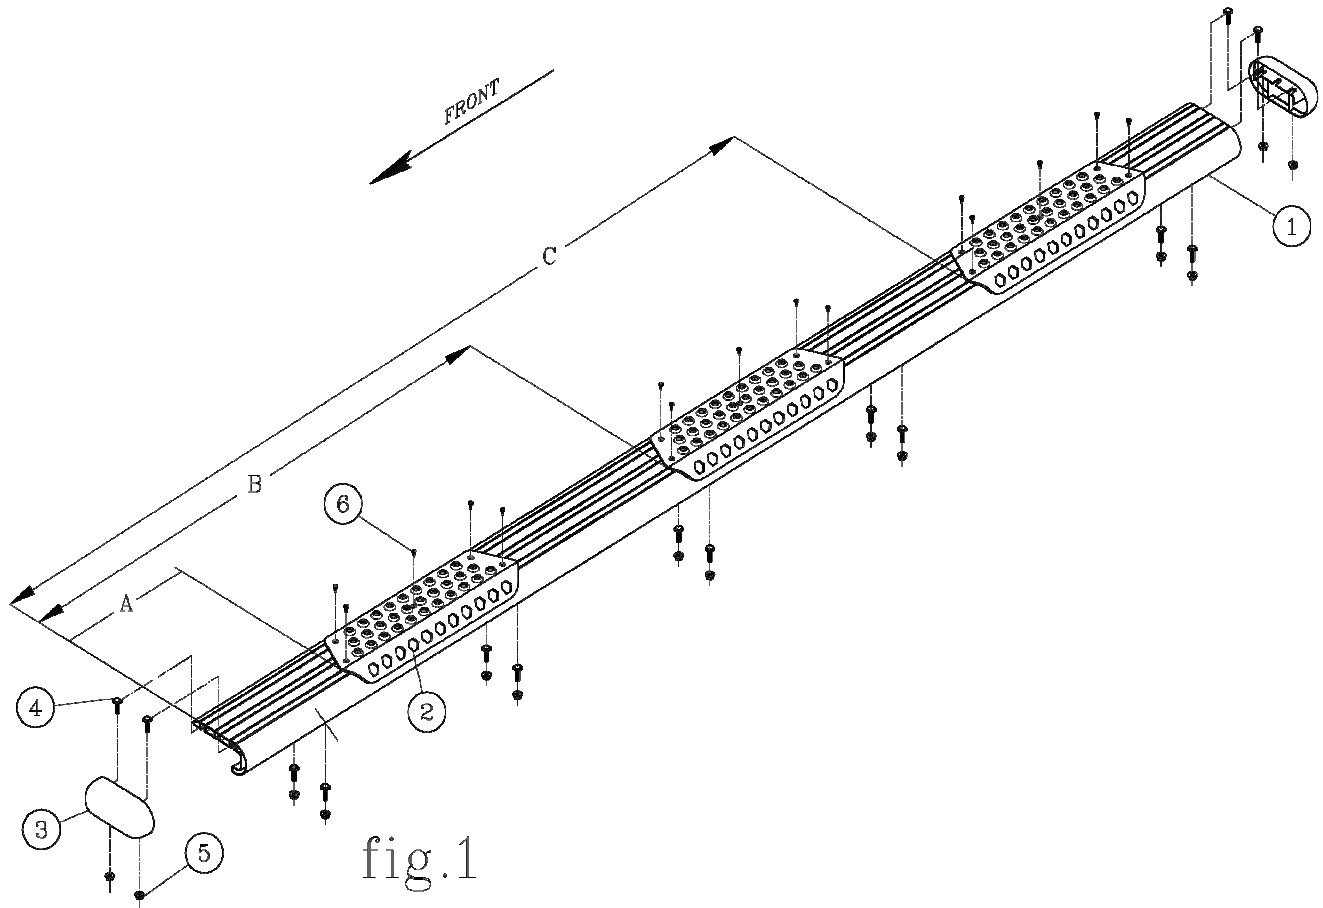

fig.1
3. BEFORE ATTACHING THE O-MEGA STEPS TO THE BRACKETS, PLACE THE STEP PADS (ITEM #2) ON TOP OF THE STEP PLATES. USE THE TABLE ON SHEET #2, AS A GUIDE TO POSITION THE STEP PAD FOR YOUR PARTICULAR VEHICLE. WHEN INSTALLING THE PADS ON THE STEPS, DRILL (5) 1/8" HOLE USING THE STEP PAD AS A GUIDE. ATTACH WITH (5) 8-18X1/2" TEK SCREWS (ITEM #6) PROVIDED. REPEAT FOR ALL STEP PADS. (NOTE: DUE TO THE SHORTNESS OF SOME BOXES, MOUNT THE BOX STEP PAD FIRST, APPROXIMATELY 1/2" FROM THE END CAP AND THEN MOUNT THE MIDDLE STEP PAD ACCORDINGLY.)
5. INSTALL THE END CAPS (ITEM #3) AS SHOWN IN *fig. 1*, TIGHTENING THE NUTS TO 5 LB FT.